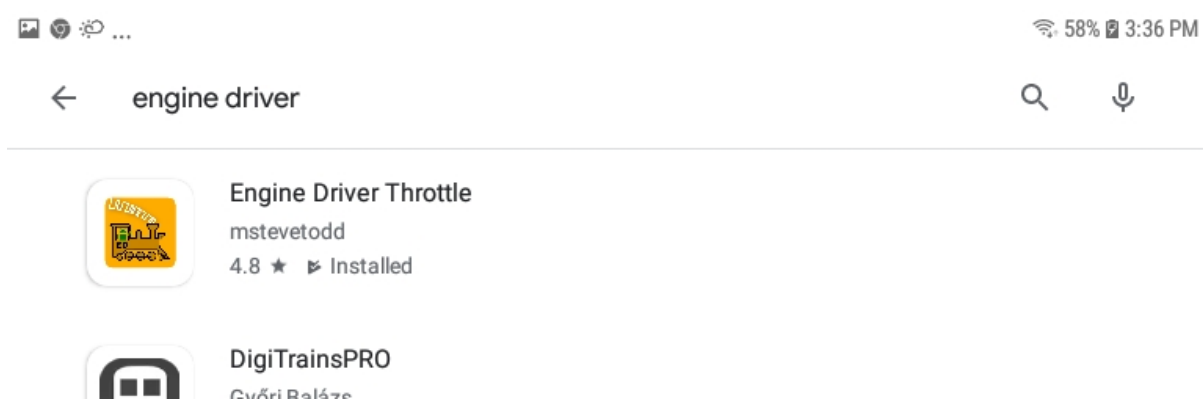

Figure 15 Searching for the Engine Driver app in Google Play Store
- (1) First install the Engine Driver app. On your Android phone or tablet, make sure you are connected to the internet and run the Google Play Store app from the home screen:
- (2) Search for Engine Driver by M. Steve Todd, download and install it. To do this:
- b. Type “Engine Driver” into the text box and click the Search button, make sure the correct app “Engine Driver Throttle” displays as in Figure 15,
- c. Tap on the “Engine Driver Throttle app” (Figure 15). The app detail page displays.